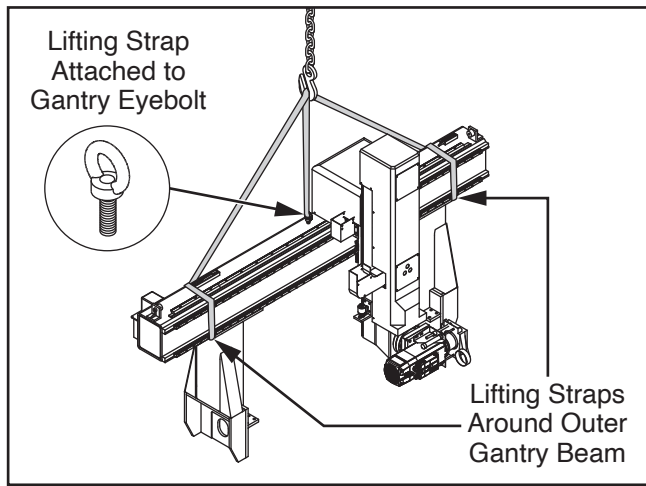

Figure 30. Lifting straps connected to eyebolt and gantry beam.
3. Connect (1) end of lifting strap to eyebolt on gantry and secure opposite end to forklift/hoist (see **Figure 30**).
4. Connect (1) end of lifting strap around outer side of gantry beam, and connect other end to opposite side of gantry beam (see **Figure 30**). Secure middle portion of lifting strap to forklift/hoist.